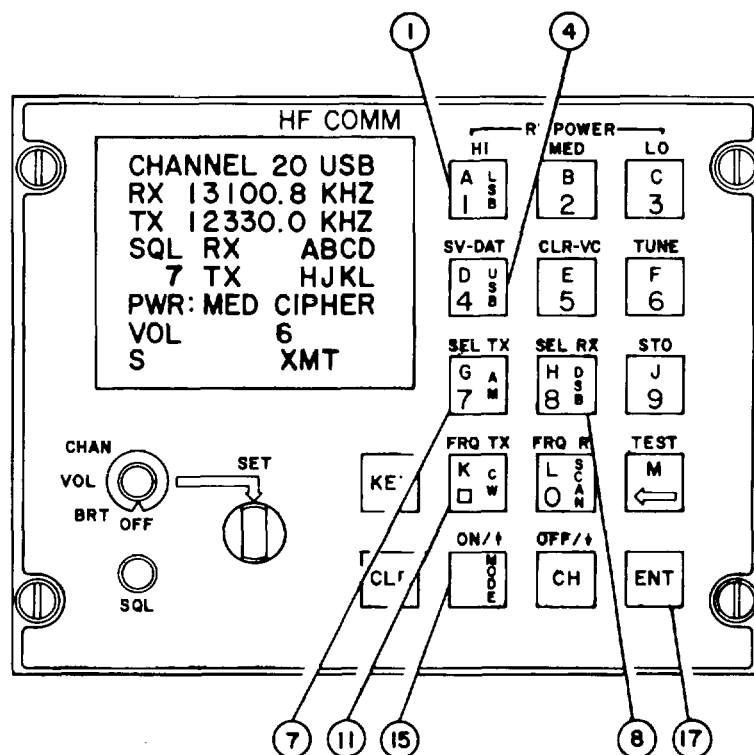

Figure 2-24. C-11245/U Modulation Mode, Controls
- e. **Modulation Mode.** Refer to figure 2-24. To select the modulation mode, press the MODE pushbutton (15). Then press the mode desired, choosing from the LSB pushbutton (1), the USB pushbutton (4), the AM pushbutton (7), the CW pushbutton (11), or the DSB pushbutton (8). Press the ENT pushbutton (17) to enter data. After the selected mode pushbutton is pressed, the modulation mode display field in field 3 (figure 2-2), on the CRT screen appears in inverse video until the ENT pushbutton (17) is pressed. An "M" which appears in field 10 (figure 2-2) to indicate that the mode is being changed, also disappears after the ENT pushbutton (17) is pressed.